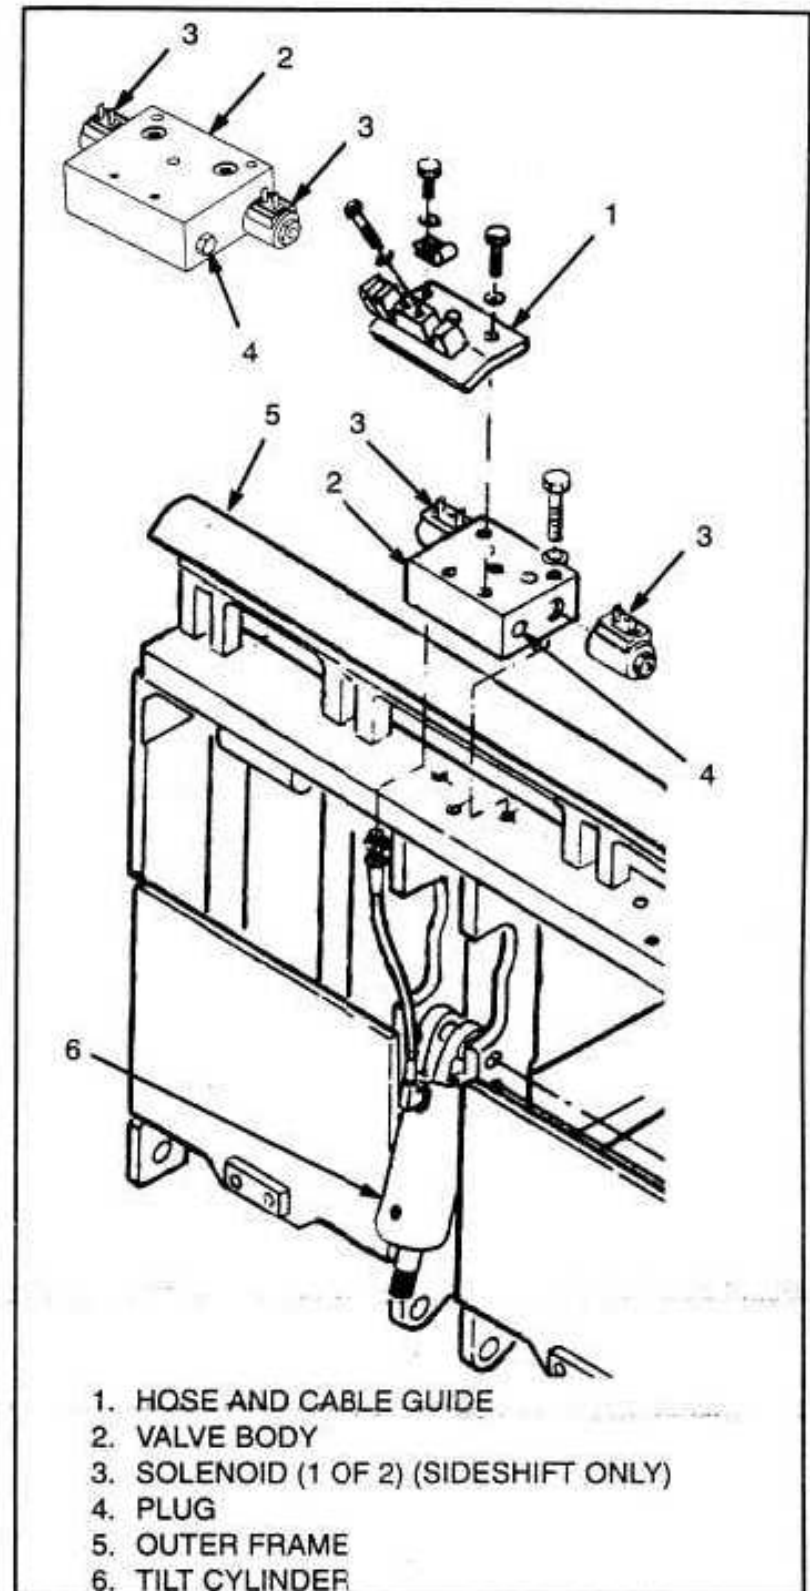

Figure 8-39 – Tilt/Sideshift Selector Valve
3. If necessary, install labels for correct connection during installation and remove the hoses at the top of the outer frame. See Figure 8-39. Install caps on the hydraulic lines of the solenoid valve to prevent dirt from entering the system.
2. Install the parts in the valve block as shown in Figure 8-39.
4. Connect the hydraulic lines as marked during disassembly. Always use new O-rings on the O-ring fittings. If necessary to connect the hydraulic lines, see Figure 8-39.